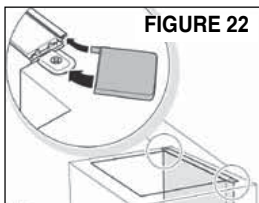

FIGURE 22
- Push the side covers into place on the mounting brackets on top of the counter and lock them in place (FIGURE 22)